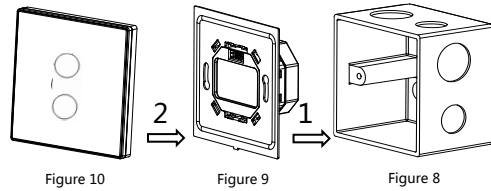

Figure 8 - 10. Installation
**Installation - See Figure 8 - 10**
Installation	Wall box (See Figure 8 - 10)